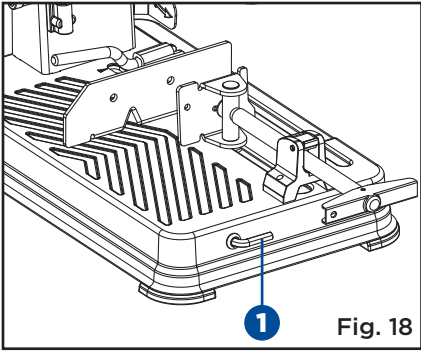

Fig. 18
**STORAGE OF THE ARBOUR WRENCH (Fig. 18)**
Store the arbour wrench (1) on the front of the chop saw when not in use, as shown in Fig. 18.